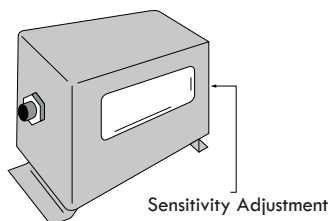

Figure A-107: Vibration Switch detail
- Press the reset push button to engage the magnetic latch. To be sure the magnetic latch has engaged, observe latch through the window on the vibration switch (see Figure A-107).